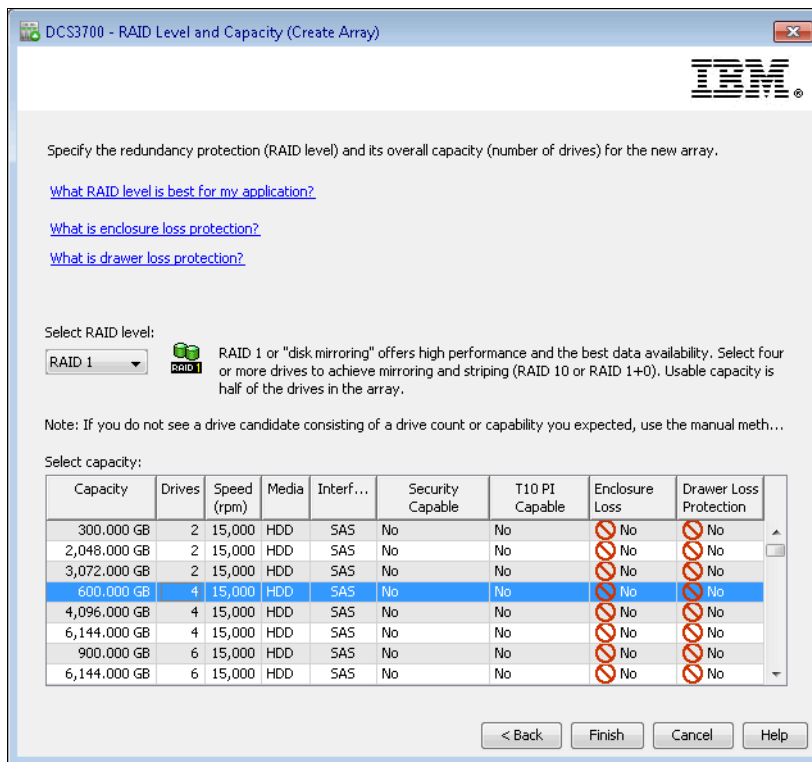

Figure 8-10 RAID level and capacity
- Select the wanted RAID level. The window that is shown in Figure 8-10 now shows the capacity options, depending on the unconfigured drives that are available in your storage subsystem. If you have different disk sizes, you have more than one option for the same number of disks. To determine the best RAID level for your specific environment and application, see Chapter 2, “IBM System Storage DCS3700 storage subsystem planning tasks” on page 23.
- Select the line with the required capacity from the list and click **Finish**. In our example (Figure 8-10), we create a RAID 1 array with four 1 5 K RPM SAS drives.